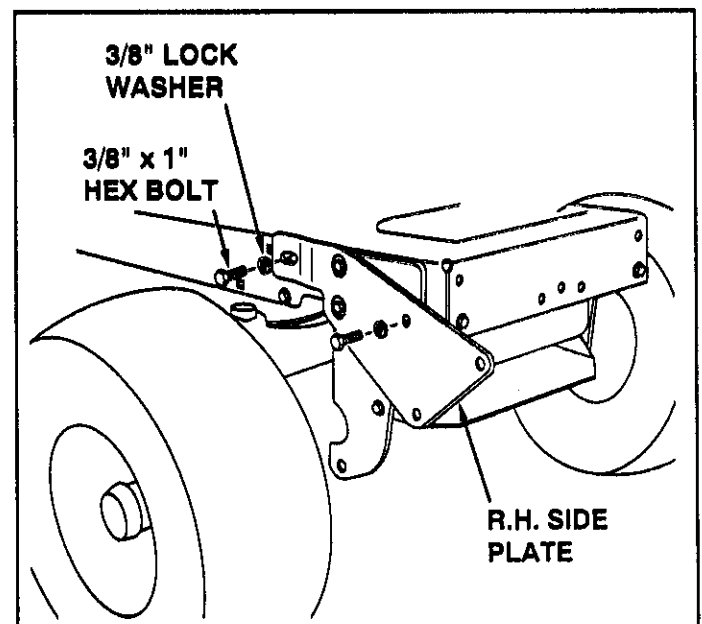

FIGURE 2
- Assemble the R.H. Side Plate (marked with an "R") to the now empty holes in the right hand side of the tractor frame using two 3/8" x 1" hex bolts and 3/8" lock washers as shown in figure 2. Repeat for the L.H. side.